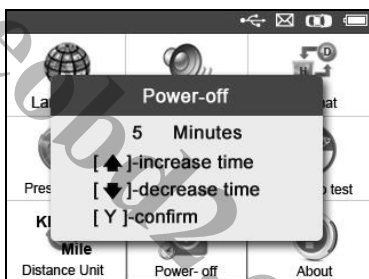

Figure 3.10
- 2) Press the **UP/DOWN SCROLL** button to increase or decrease the time to auto power-off the tool, and then press the **Y** button to confirm your change or the **N** button to exit without change. (Figure 3.10)